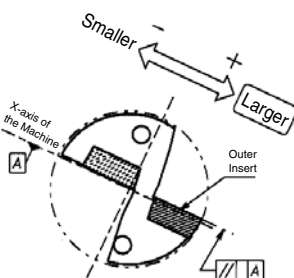
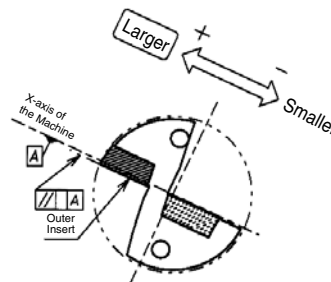

Fig. 2 Outer Insert Facing Up
Fig. 3 Outer Insert Facing Down
- ① Cutting diameter is adjusted by moving the tool to the X-axis direction. The moving direction of the X-axis depends on the position of the toolholder.
- ② In case of making the hole diameter larger, slide the tool along the X-axis toward the outer insert side. (Fig. 2, Fig. 3) For making the hole diameter smaller, slide the tool along the X-axis in the opposite direction. (This movement of the axis is called "Offset")